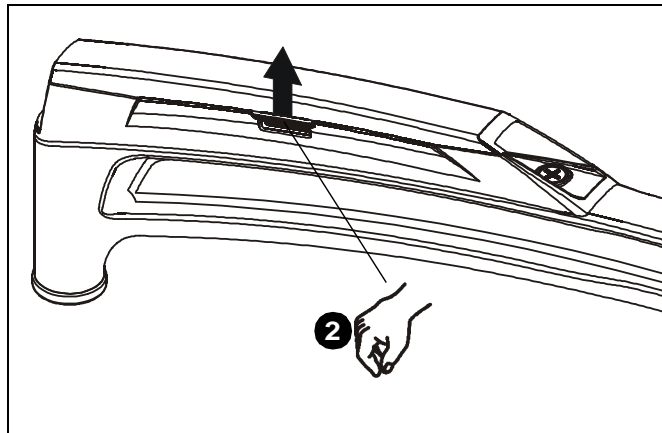

Figure 27
2. Open cable management covers on upper and lower swing arms by unhinging center tabs and lifting covers to the open position. (See Figure 27)